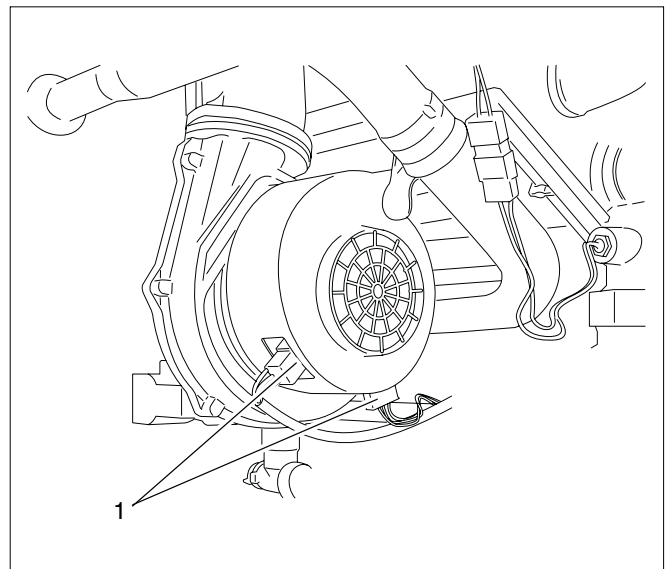

Fig. 82 Disconnect the cable plug from the fan unit
- Remove both cable plugs from the fan unit (see fig. 82, pos. 1).